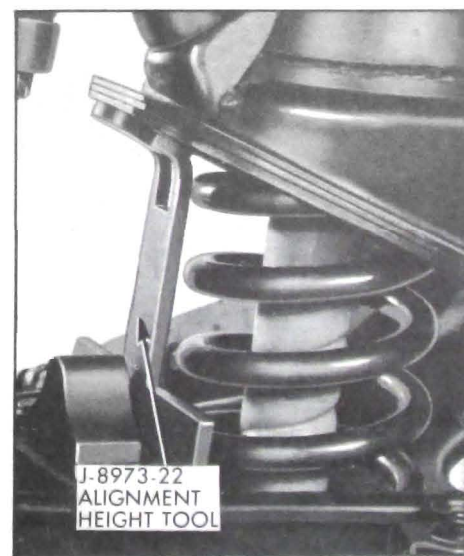

Figure 7-25—Front Alignment Height Tool in Position (Right Shown)
8. Car must be on level surface. Raise front of car slightly and place Front End Alignment Height Tool J-8973-22 between front cross member and lower control arm at each front wheel as shown in Figure 7-25. Lower front of car to hold Alignment Height Tool J-8973-22 securely in position.